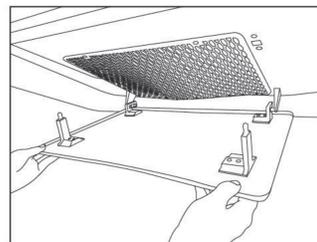
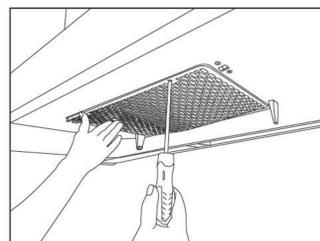
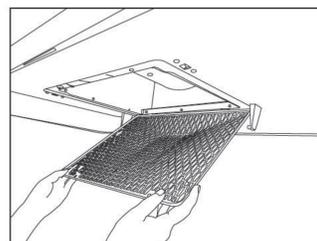

fig 2
fig 3
fig 4
2. First, grasp the front edge of the wing plate with both hands, turn it down to disengage the wing plate locking tab, and then turn it down at a certain angle, take down the wing plate (Figure 2), then hold the air intake hood with left hand, loose the two screws fixing the air intake hook with right hand by using cross-head screwdriver (Figure 3), take down the air intake hood (Figure 4), soak the oil cup, wing plate and air intake hood in warm water containing neutral detergent, and clean them with soft brush;